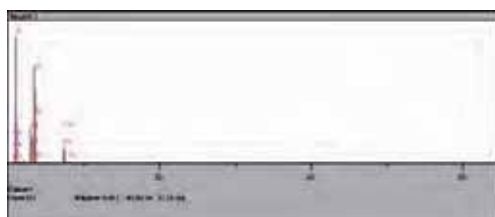

Fig. 7 - Spettri EDS della vetroresina: Area non danneggiata
Moreover, the ashes of the sample under investigation were subjected to further qualitative analysis through SEM/EDS microanalysis. The composition results to be made of oxygen (O), aluminium (Al), silicon (Si) and calcium (Ca) (fig. 7 and 8).